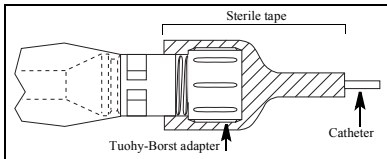

Fig. 14
25. Tuohy-Borst adapter end of catheter contamination shield should be secured with sterile tape to inhibit insertion catheter movement (refer to Fig. 14). **Precaution: Do not apply tape to the transparent sheathing on the shield to minimize the risk of tearing material.**